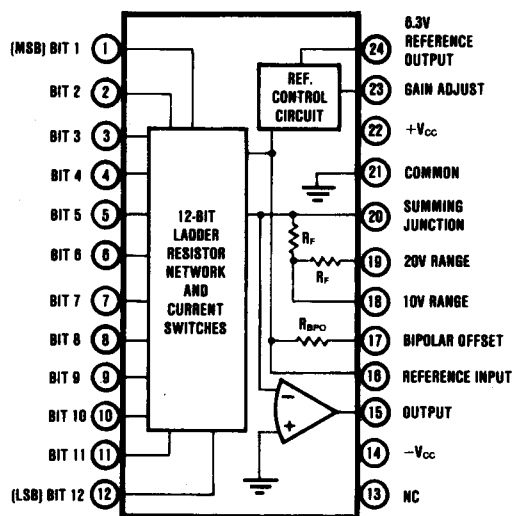
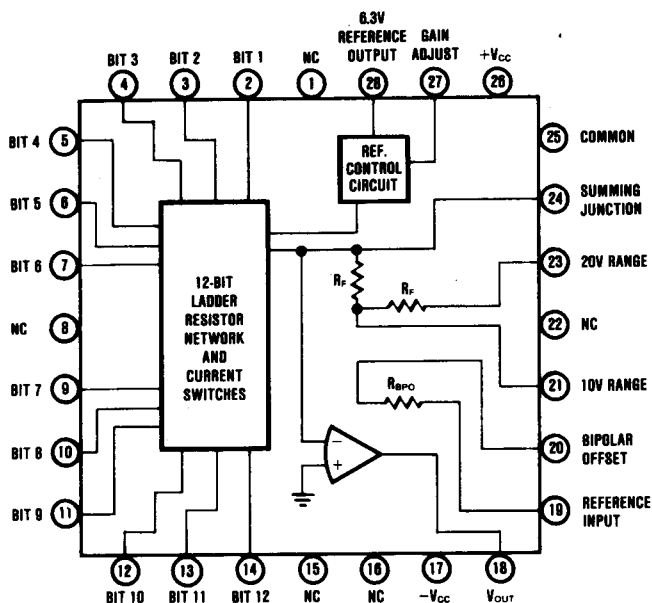

FIGURE 2. Terminal Connections (24-pin Ceramic Side Braid).
FIGURE 3. Terminal Connections (28-terminal LCC).
3.2.7 Circuit diagram and terminal connections. The circuit diagram and terminal connections for the ceramic side-brazed package are shown in Figure 2 and the circuit diagram and terminal connections for the leadless chip carrier package are shown in Figure 3.